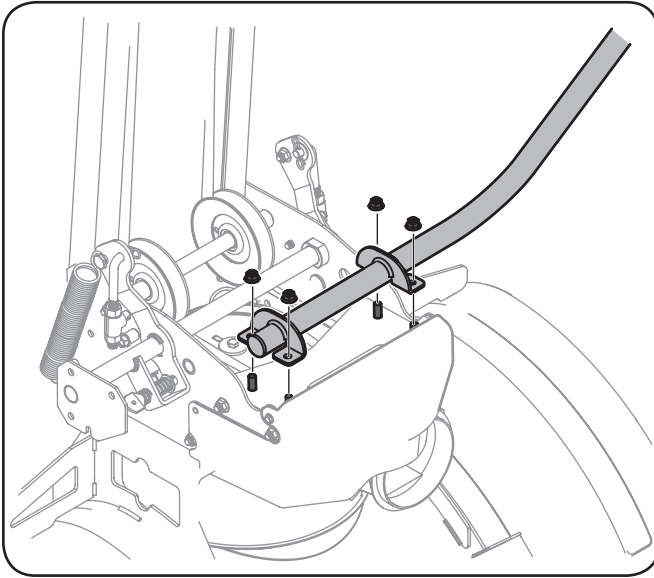

Figure 3-15
1. Using a $\frac{1}{16}$ " wrench, secure the chute crank assembly to the auger housing assembly with four flange lock nuts. See Figure 3-15.